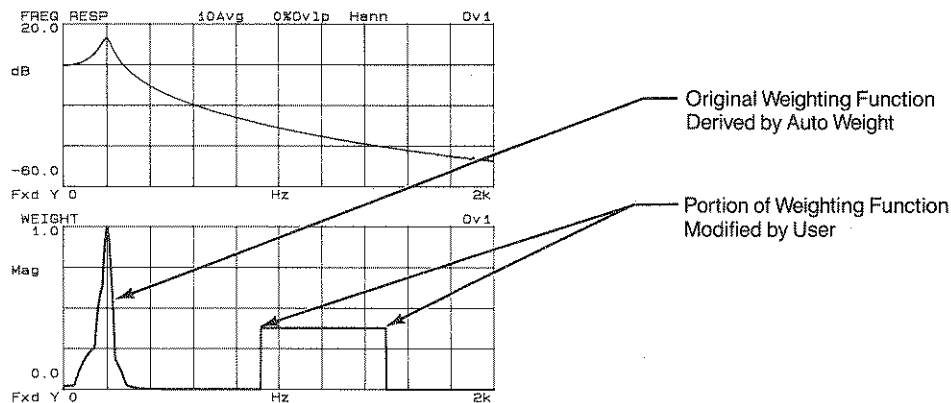

Figure 9-20 User-Modified Weighting Function
**The user-defined function must be saved using STORE WEIGHT for the changes to take effect.** User weighting functions are erased if a new measurement is started; save the function in local memory (use **SAVE RECALL**) if necessary. The curve fitter uses the specified value inside the weight region and uses the previous levels (either user or auto) for the parts of the function outside the weight region. You can specify and modify more than one region. Figure 9-20 shows an example of a user-modified weighting function.